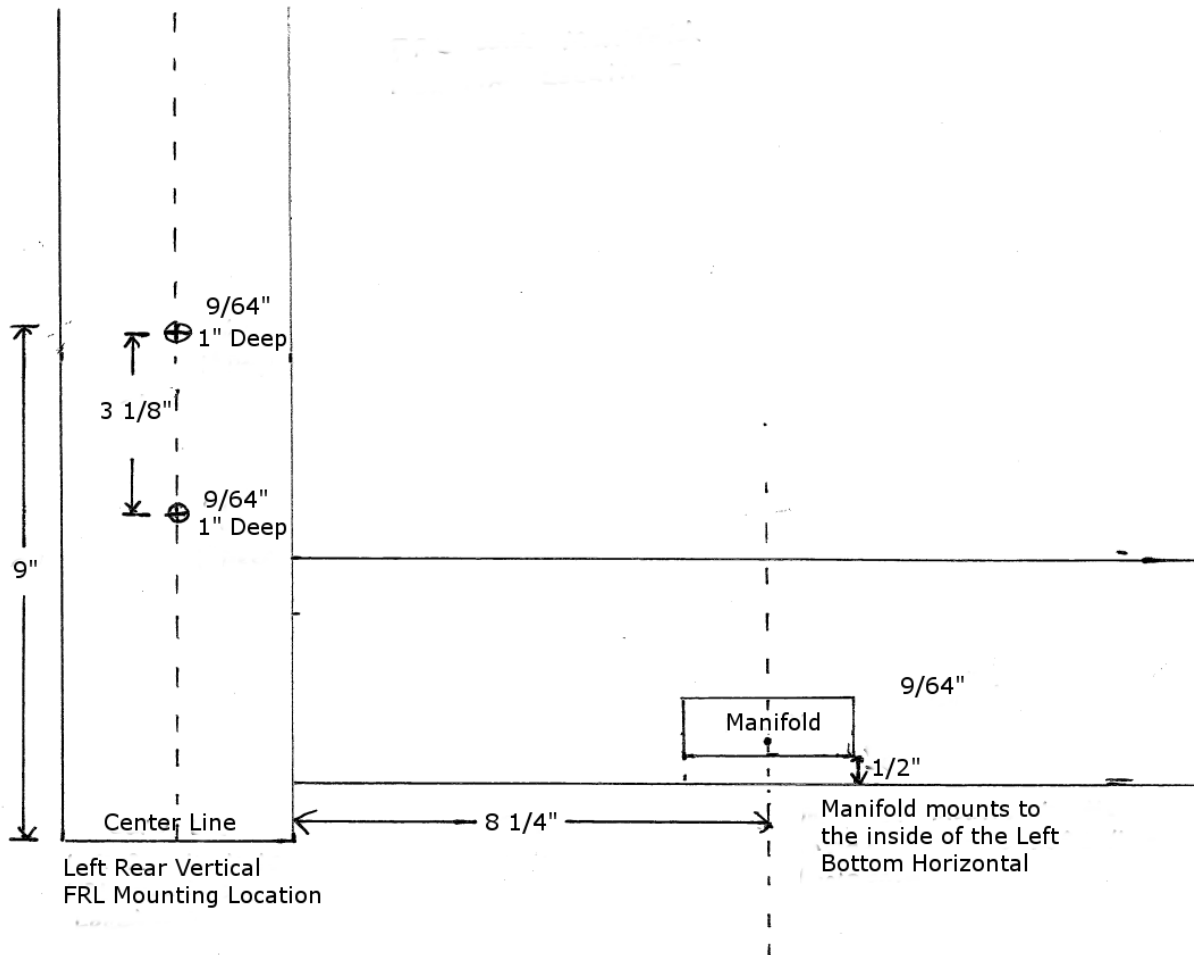

Figure 23 - FRL and Manifold Mounting Locations
- 1) Measure as shown in Figure 23 - FRL and Manifold Mounting Locations from the left rear vertical to the manifold position on the left bottom horizontal. Mark the center line for the manifold.